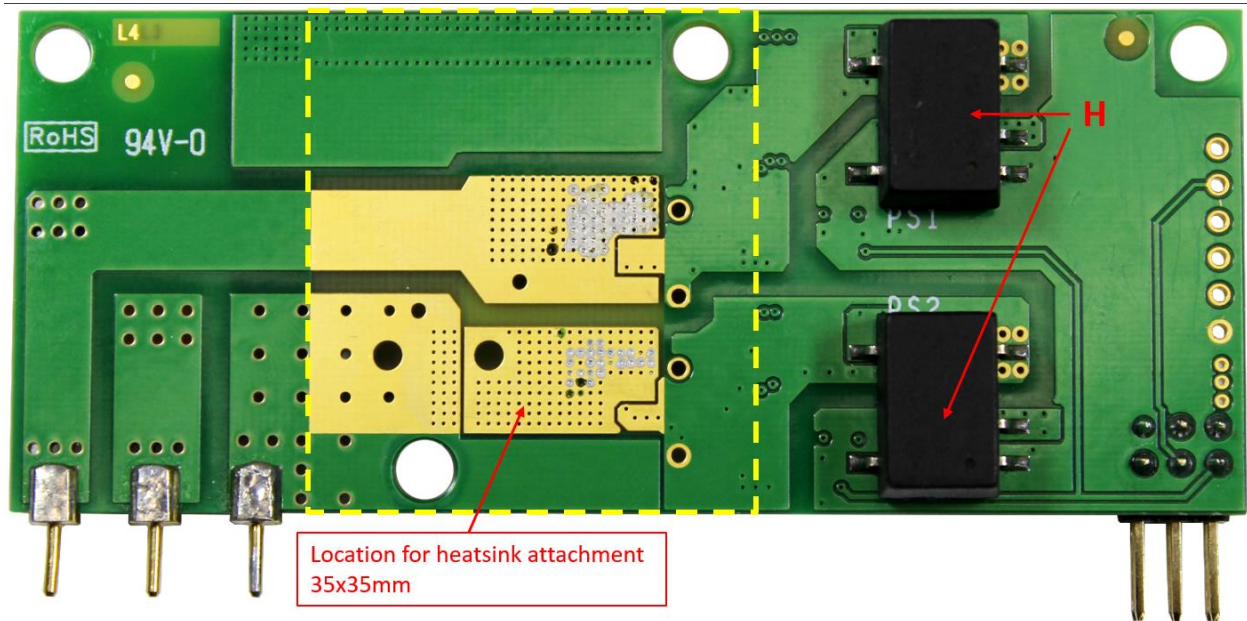

Figure 3 GS66508B-EVBDB bottom side
3. A thermal tape type TIM (Bergquist® Bond-Ply 100) is chosen for its easy assembly. The supplied heatsink has the thermal tape pre-applied so simply peel off the protective film and attach the heatsink to the back of board as marked in Figure 3.